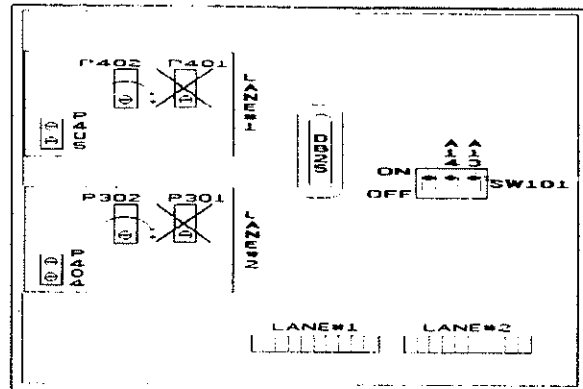

Figure 3
NOTE: Never touch the P301 or P401 potentiometers (POTs) (refer to Figure 3) since these can only be adjusted at the factory.
A. Select the normal DIP SWITCH (10 pins) position (refer to Figure 3) for the location of the SW-101 DIP switch bank on the camera PCB board:
Carry-out the adjustment until all ten LEDs are ON for the Lane LED display on the camera PCB. (refer to Figure 3).